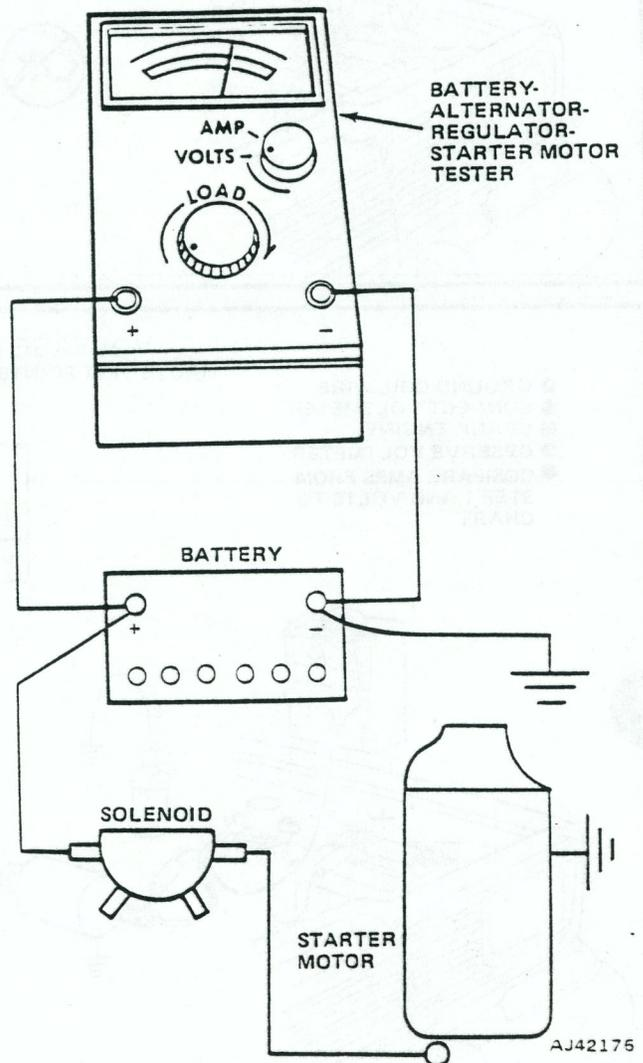

Fig. 1F-14 Starter Motor Full-Load Current Test
- (4) Connect battery-alternator-starter motor tester leads as depicted in figure 1F-14. Operate remote control starting switch and note voltage indicated on voltmeter while starter motor is rotating engine.
- (5) Release remote control starting switch.
- (6) Turn load control knob toward INCREASE (clockwise) until voltmeter indication matches that obtained when starter motor was rotating engine.